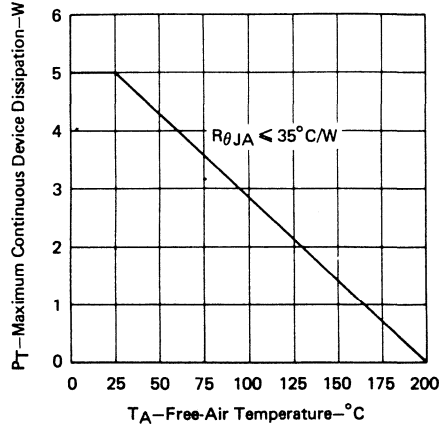

FIGURE 10
5. Derate linearly to 200°C free-air temperature at the rate of 31.4 mW/°C or refer to Dissipation Derating Curve, Figure 10.